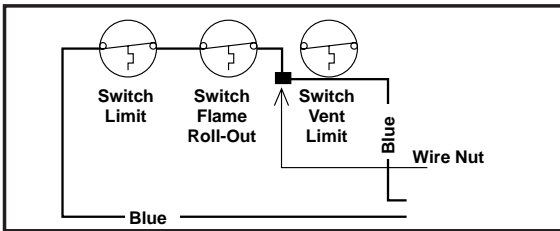

Figure 16. Limit Circuit Wiring
3. Bypass the vent switch by removing both wires from the vent switch and attaching them to the wire nut. (See Figure 16.)
1. By-pass the vent switch, located on blower compartment door, by removing both wires from the switch. Remove wire terminals, strip wires and tie together in a wire nut. (See Figure 16.)